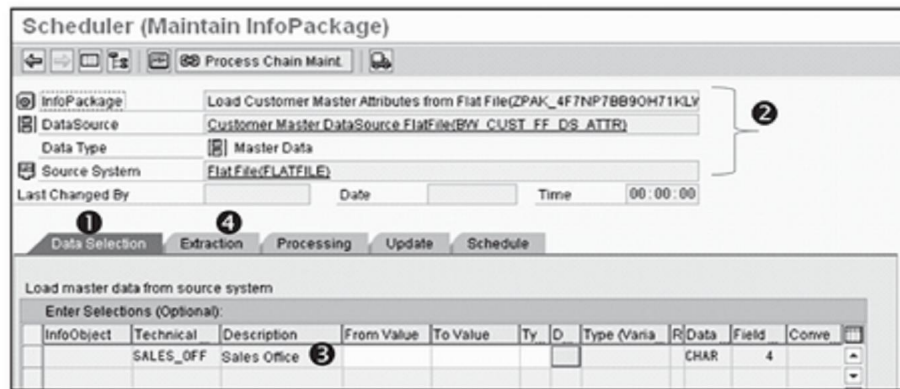
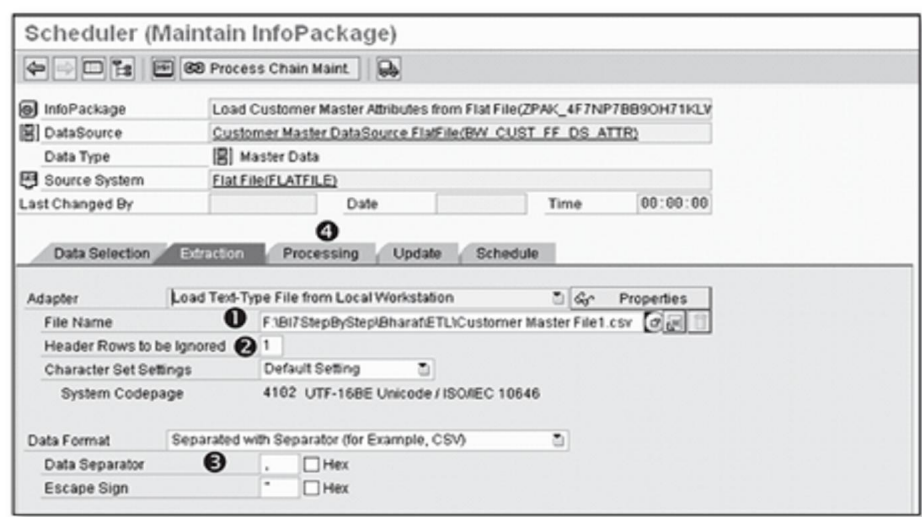

Figure 7.32 Creating an InfoPackage: Data Selection Tab
Figure 7.33 Creating an InfoPackage: Extraction Tab
This action opens up the InfoPackage maintenance screen shown in Figure 7.32. The five different tabs here are explained next.
The Data Selection tab (❶ of Figure 7.32) is displayed by default. This screen also shows details such as the DataSource, data type, and source system for which the InfoPackage is created (❷). Each InfoPackage is given a unique technical name by the SAP NetWeaver BW system, which always starts with ZPAK_*
As shown in ❹ of Figure 7.32, this is the only field offered for filtering records based on value for SALES_OFF. This was configured when creating DataSource BW_CUST_FF_DS_ATTR, under the Field tab (refer to Figure 7.15). You can enter the value of a sales office as either a single value (e.g., 1768) or an interval (e.g., 1700 to 1799). The DataSource extracts data from the source system only for the entered values. Filling
Click on the Extraction tab (❶ of Figure 7.32). The details of the Extraction tab are shown in Figure 7.33.
This tab details information such as location, actual file name, type of file, and so on; the details are automatically provided based on the Extraction tab of the DataSource definition (refer to Figure 7.11). You can change details such as file name, header rows to be ignored, data separator, and so on (❶, ❷, and ❸ of Figure 7.33). Most of the settings available on this tab page are editable, but nothing needs to be changed for our example.